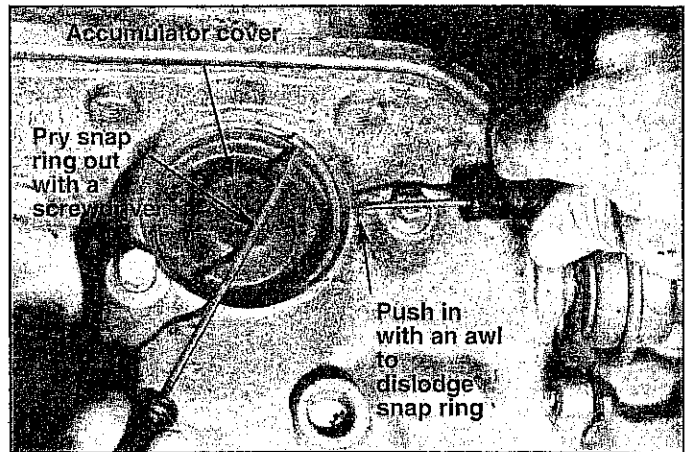

FIGURE 22
STEP 29. Use an awl or small screwdriver to dislodge the accumulator snap ring. (See Fig. 22) Pry the snap ring out with a screwdriver. Remove the accumulator cover and O-ring, accumulator spring and accumulator piston. Discard the O-ring, accumulator spring, and metal seal rings on the accumulator piston. Do not remove Teflon seal rings. Set the cover, piston and snap ring in the oil pan.